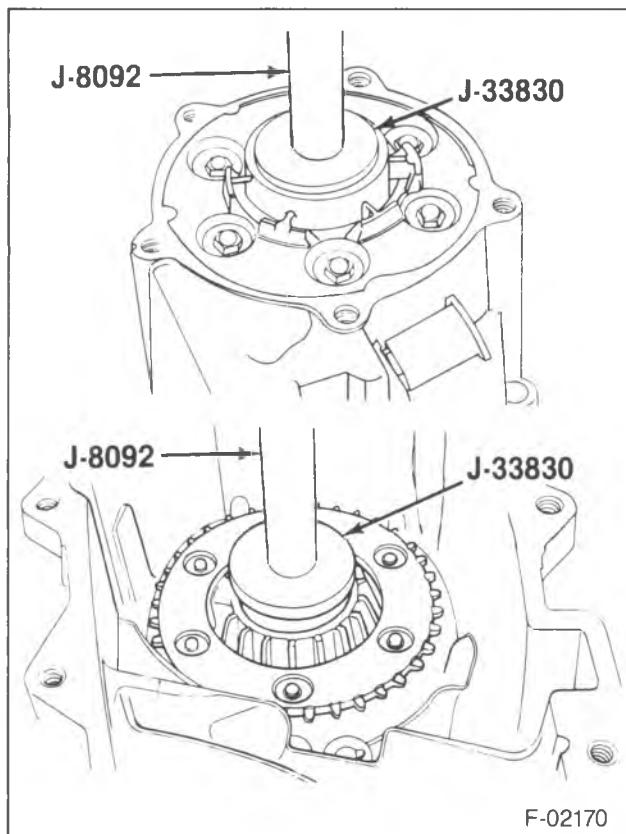

Figure 22—Input Gear Bearing Installation
- Input gear roller bearings (45) into the transfer case using J 33830 and J 8092. Press the bearings until the tool bottoms in the bore (figure 22).